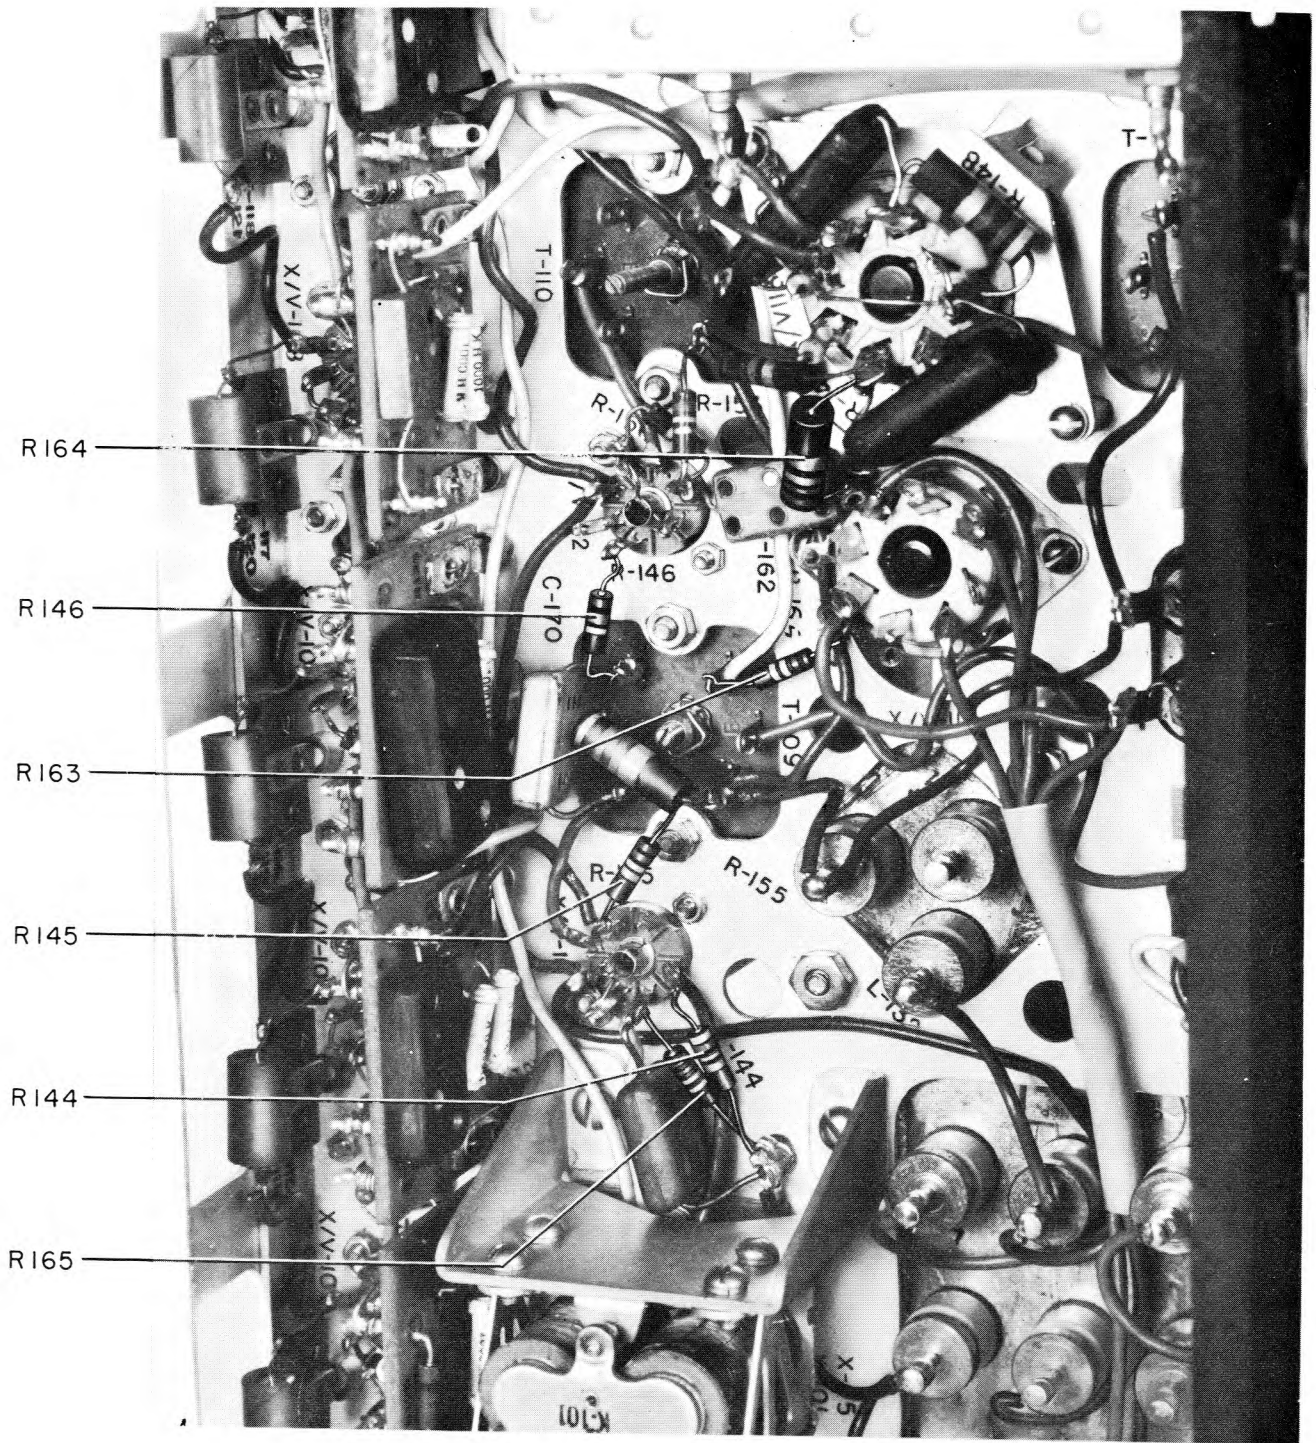

Figure 6-17. Radio Receiver and Transmitter BC-788-C—
(1) Modification prior to M₁ (not covered by a modification symbol, see figure 6-17).